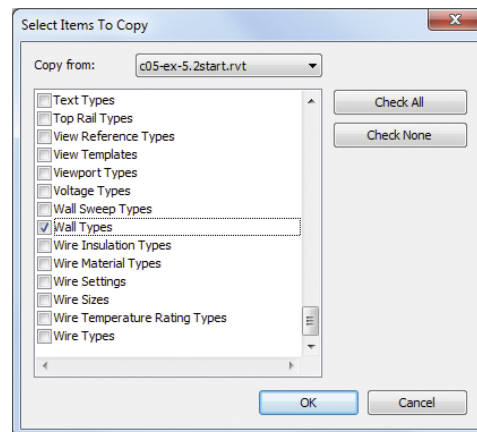

FIGURE 5.3 Selecting Wall Types to transfer between projects
4. In the Select Items To Copy dialog box, click the Check None button, and then select Wall Types from the list, as shown in Figure 5.3.
This is especially important to verify if you have more than two project files open to ensure you copy from the expected file (Figure 5.3).